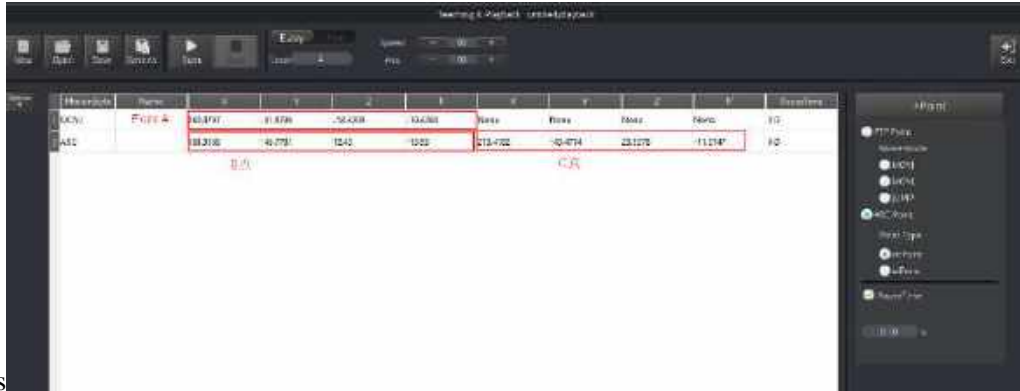

Figure 5.19 Save the second position B and the end position C
5. Click **+Point** to save the coordinates corresponding to the positions B and C, as shown in Figure 5.19.